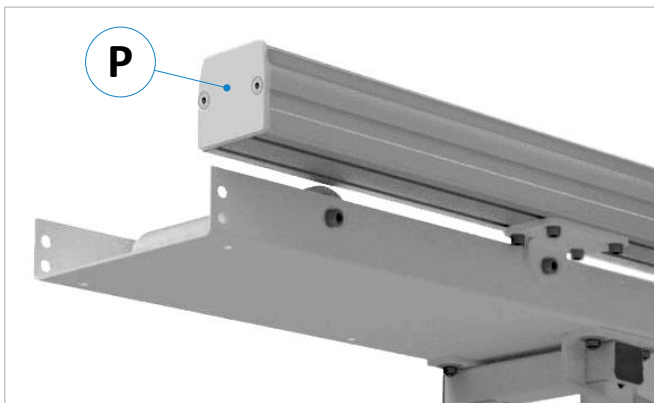

Figure 10: Fitting the end plates
1. Remove one of the two end plates (refer to ⇒ Figure 10) so that the profile cross-section is accessible and clean the guide edges of the profile over the entire length with a grease-dissolving agent.